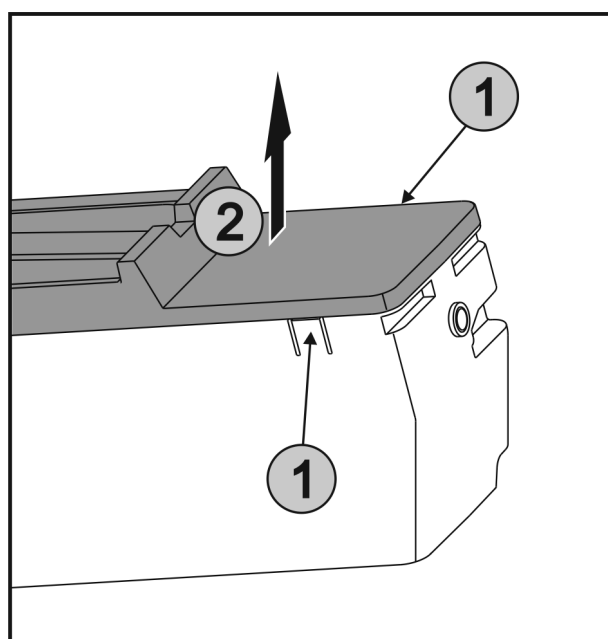

Fig. 41
- Press the lugs Fig. 41 (1) on both sides of the EasyTwist-Ice simultaneously and take off the lid Fig. 41 (2) to the top.